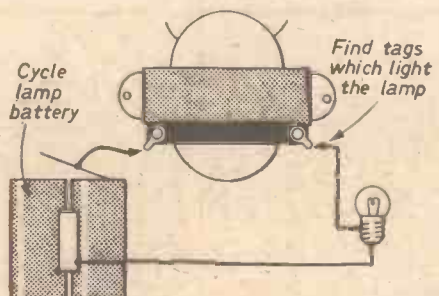
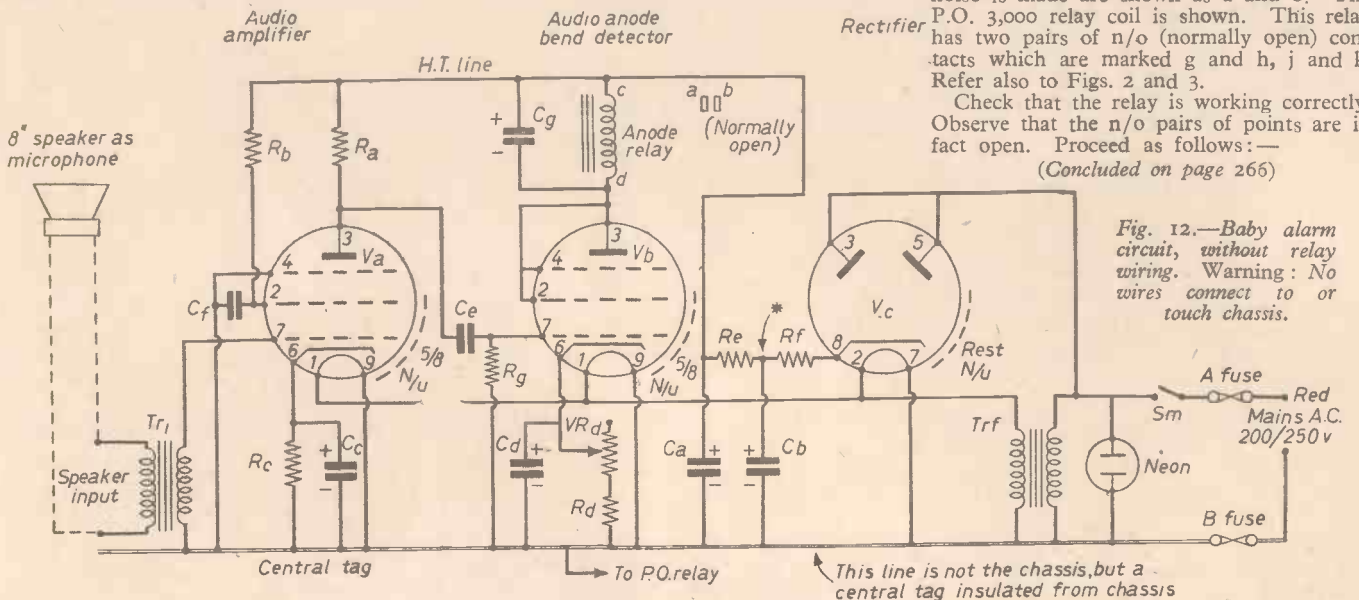

Fig. 8.—Testing the transformer for connections. Tr₁ tags found go to central tag and V_b and V_c pins 1 and V_e pin 2. Tr₂ tags found go to speaker.
Fig. 12.—Baby alarm circuit, without relay wiring. Warning: No wires connect to or touch chassis.
1. If the transformer Tc₁ is not marked test it as shown in Fig. 8 using a torch battery and flash lamp bulb.
9. Join two wires from Tr₁ primary to terminal block A. If there is any doubt about the transformer windings refer to Fig. 8 and test as shown.
10. Take pin 6 to central tag via R_c. Connect also pin 6 to central tag via C_e noting that the positive side goes to pin 6, this is very important. Some wiring is shown also in Fig. 8. Verify that pins 5 and 8 and the central spigot tag of the valve base are not used. Check wiring against the circuit of Fig. 12.
3. Connect pin 6 to VR_d exactly as shown in Fig. 8 and connect pin 6 also to central tag via C_d making sure the positive side goes to pin 6.